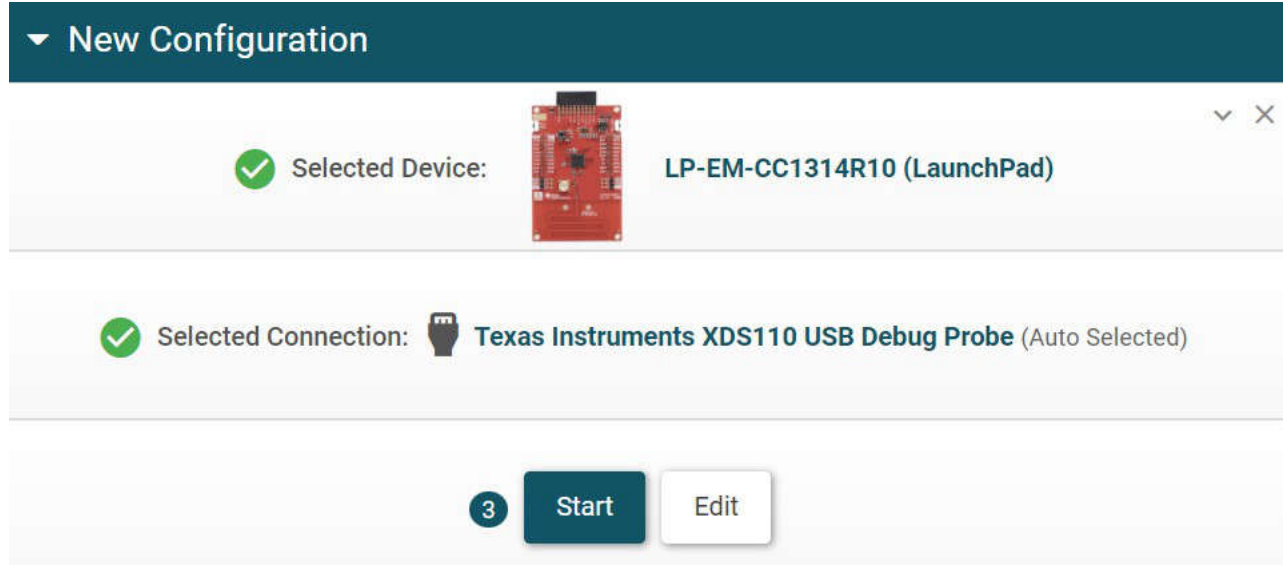

Figure 3-9. Select Device in UniFlash
- Open Uniflash, select the device you are using, and select "Start" (Figure 3-9).